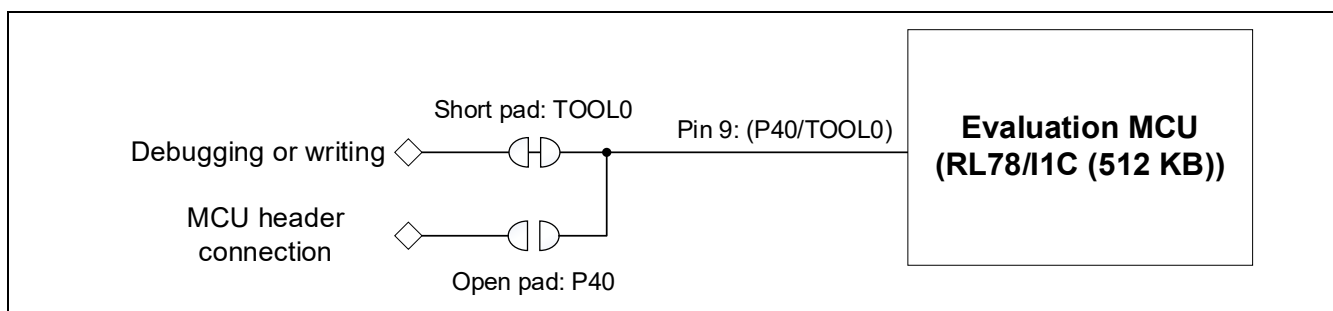
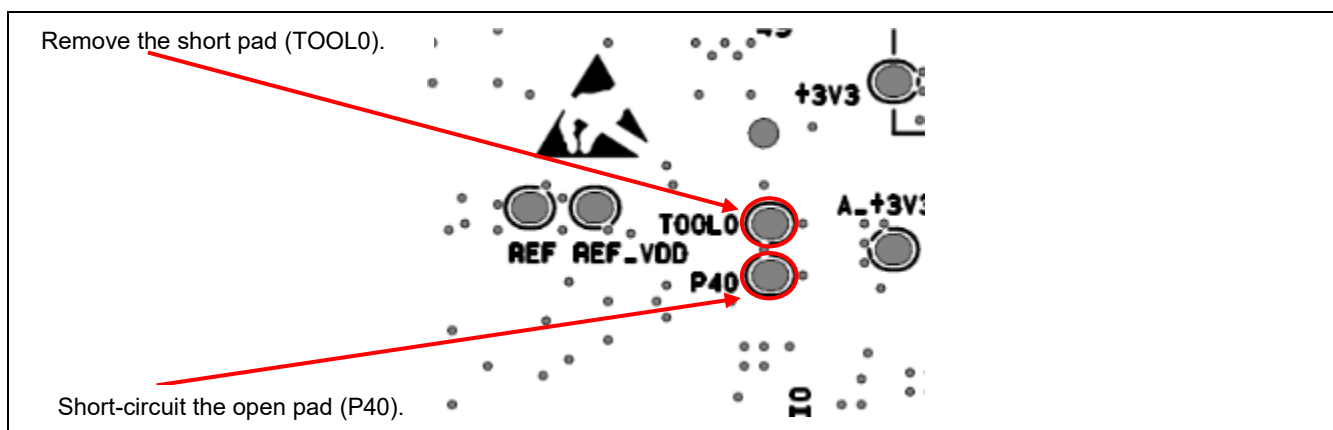

Figure 5-10 Block Diagram of Switching between TOOL0 and P40 (*2)
Figure 5-11 Positions to be Modified when P40 is to be Connected to the MCU Headers (Soldered Side) (*2)
- *2. This pin is for use in debugging or programming of the RL78/I1C with the TOOL0 function on the board as shipped and by default is not connected to the MCU header. If the MCU header is to be used, remove the short pad (TOOL0) and short-circuit the open pad (P40) on the back of the board (refer to Figure 5-10 and Figure 5-11).